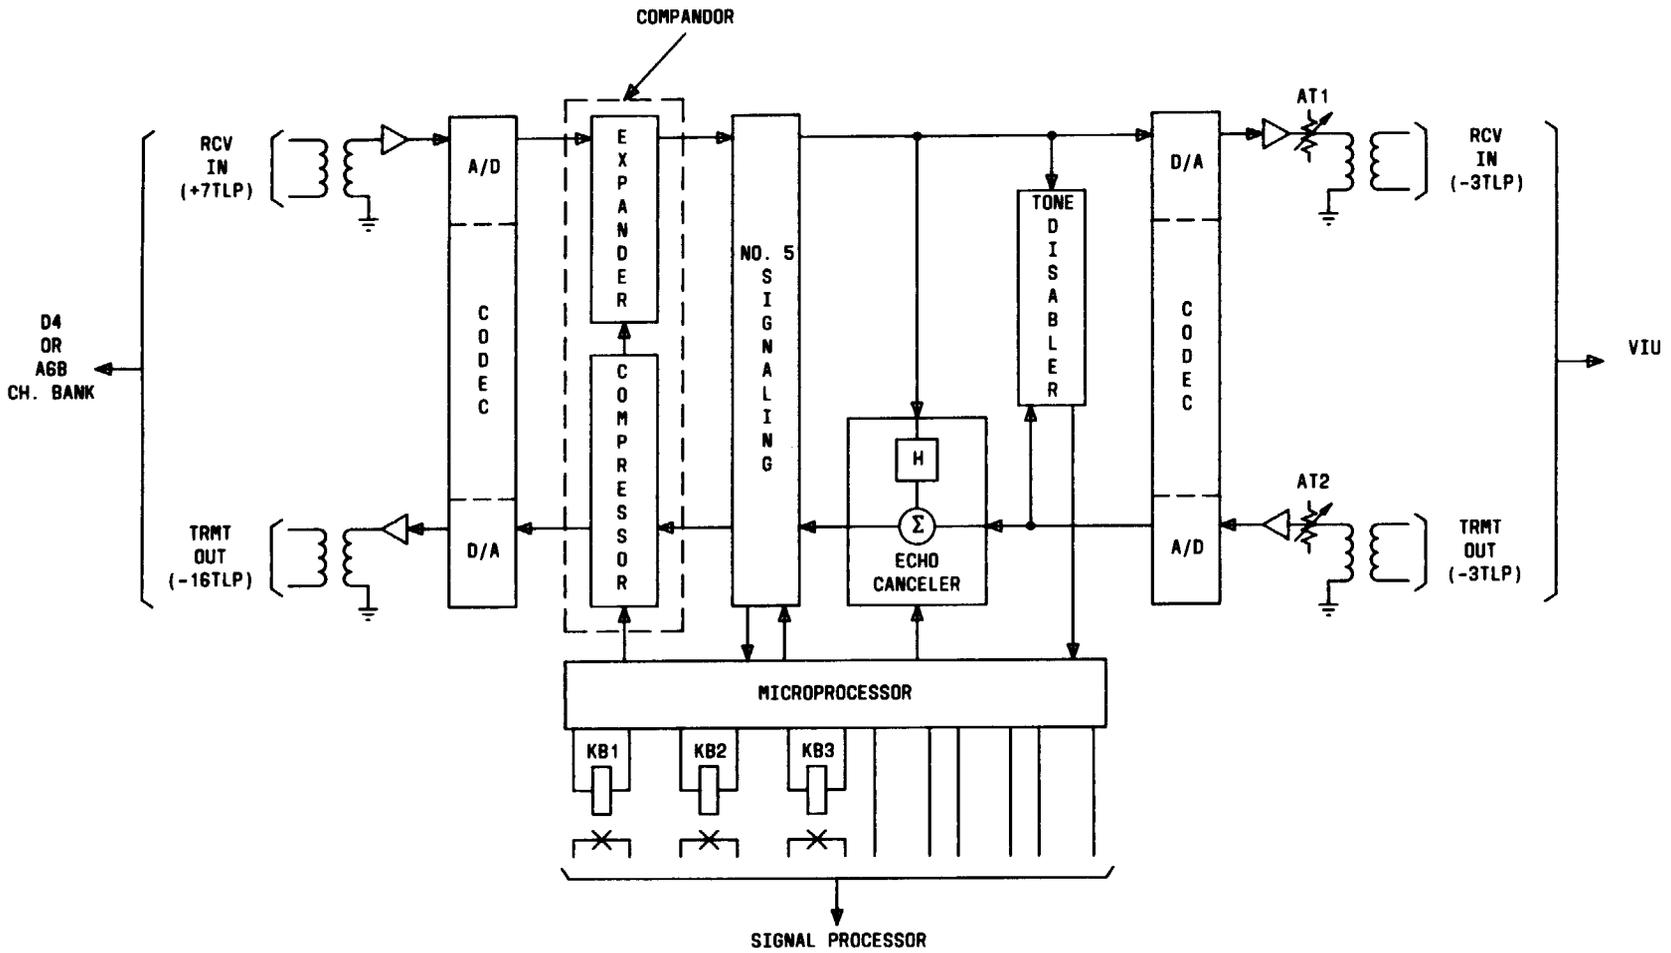

Fig. 2—J60110AA-1 Transceiver Block Diagram
**2.02** A block diagram of the J60110AA transceiver is shown in Fig. 2. The unit is a 2-way device that connects to A6 or D4 channel banks on the line side and to a 4 ESS™ switch VIU (voice interface unit) on the drop side. The transceiver contains components that perform six significant functions: